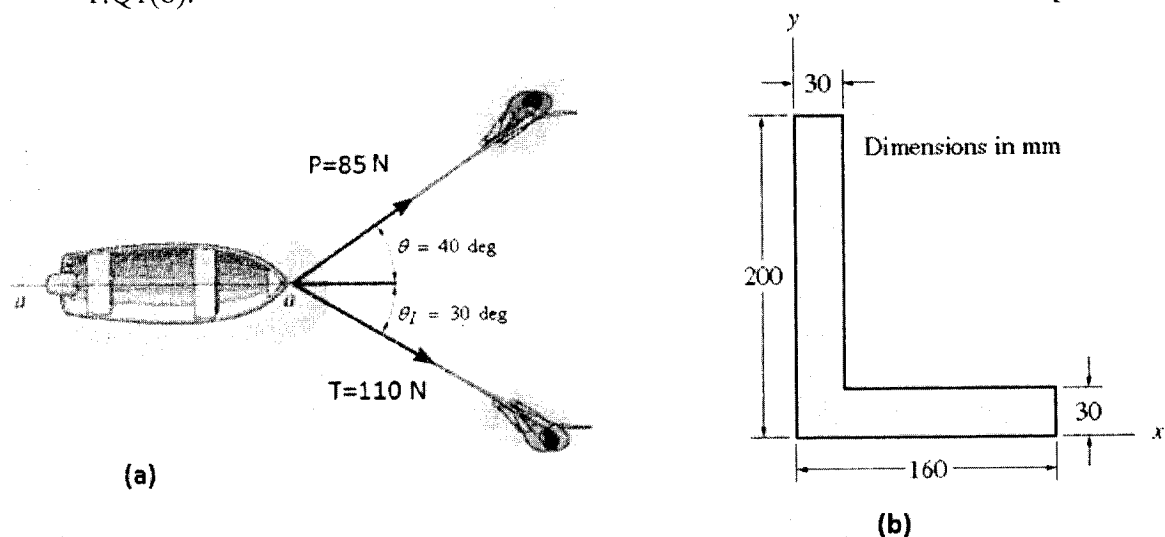

Figure 1:Q1
- b) Determine the second area moment about the x -axis for the cross-section shown in Figure 1:Q1(b).